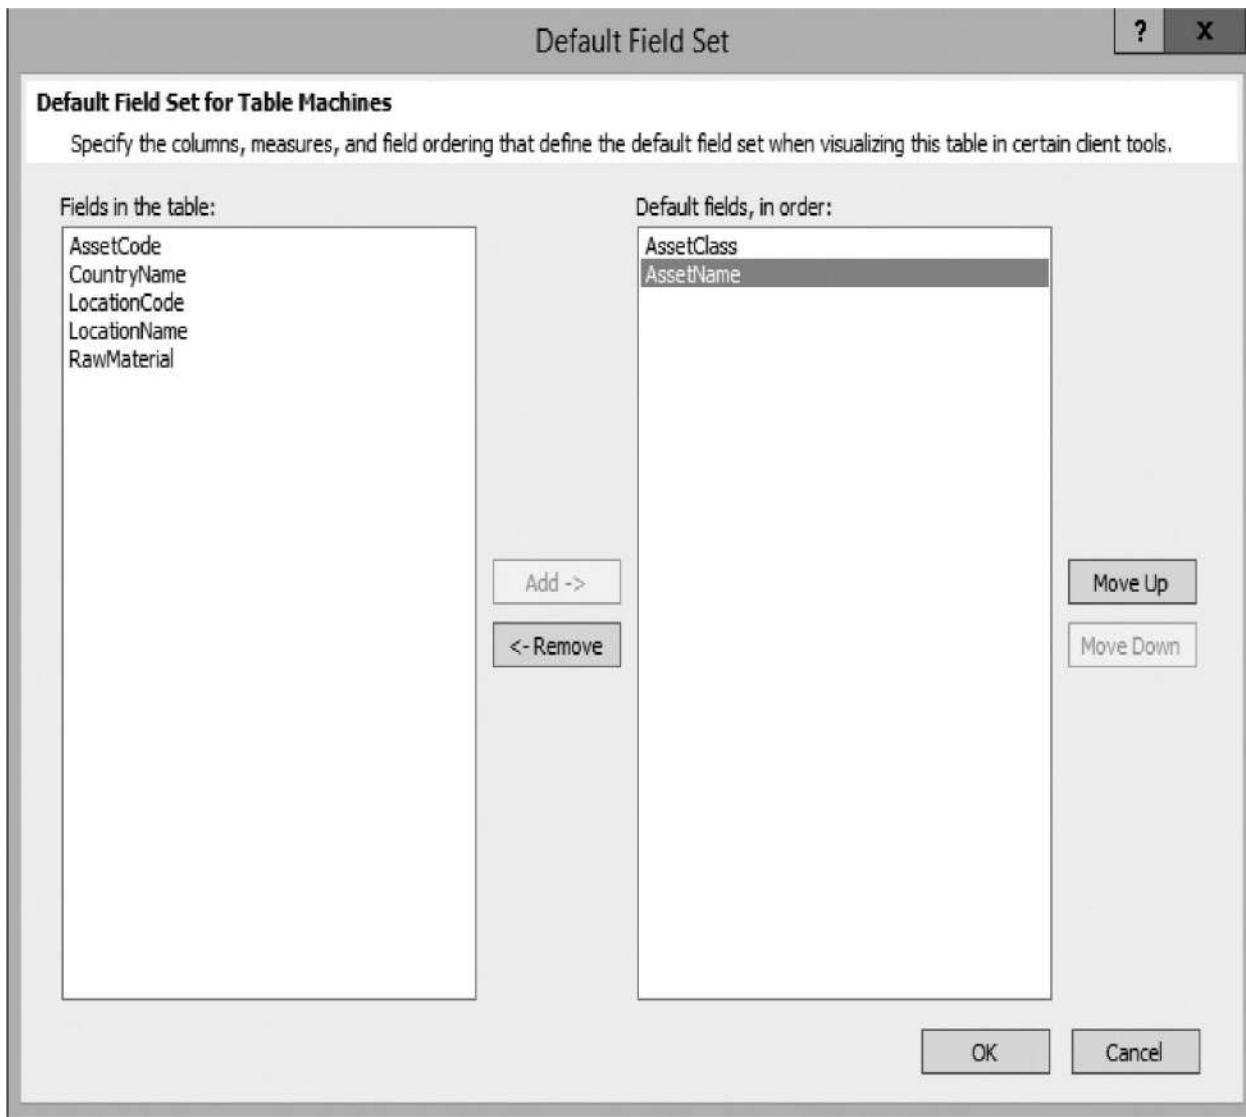

Figure 10-1 The Default Field Set dialog box
9. Select the AssetName field in the Fields in the table area and click Add. The Default Field Set dialog box appears, as shown in Figure 10-1.